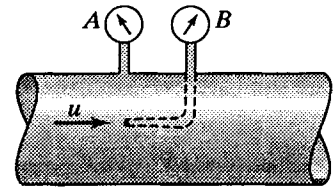

Figure S11.1
- 11.3.1 In Fig. S11.1 kerosene ($s = 0.81$) is flowing. The pressure gages at A and B read 70 and 150 N/m². Find the velocity u assuming $C_I = 1.0$.